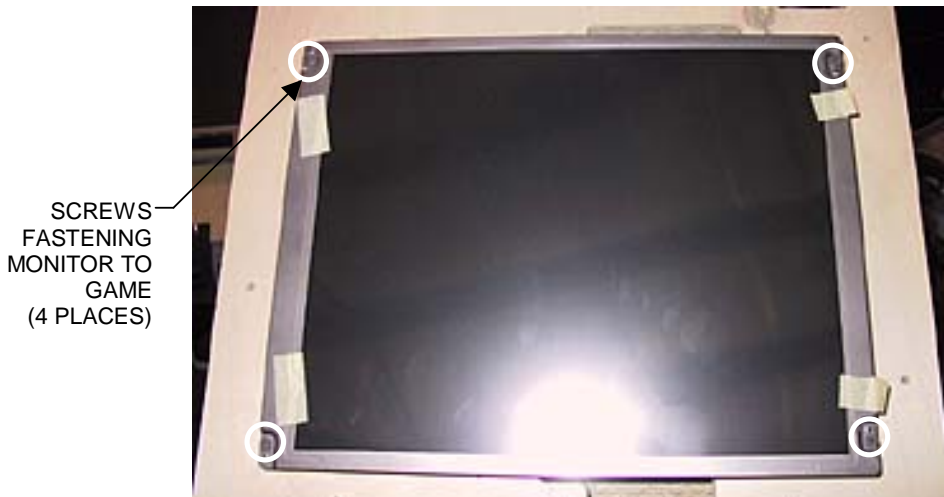

FIGURE 3 - MONITOR (WITH BEZEL REMOVED)
11. Remove the 4 screws securing the monitor to the bezel, then gently remove the monitor. See Figure 3.
1. Line up the new monitor with the screw holes on the wooden frame and secure the monitor in place with the 4 existing screws. See Figure 3. The white edge of the monitor and the monitor wire connections should face the bottom of the game.